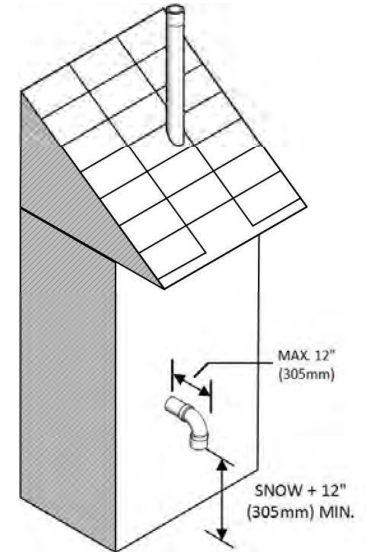

Figure 10: Rooftop vent termination with sidewall combustion air
- The air intake pipe may terminate on the side wall of the building as long as the air intake terminal is turned down and the side wall of the building is not exposed to large wind loads i.e.,: prevailing wind (see *Figure 10*).